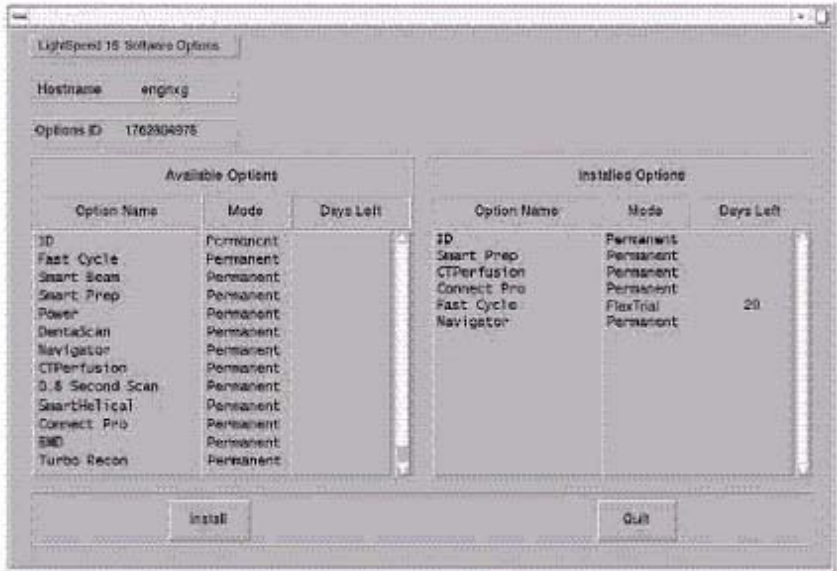

Figure 1-22 Software Options Screen (Example)
- 9.) Click OK. Available options appear on the Software Options screen (Figure 1-22).